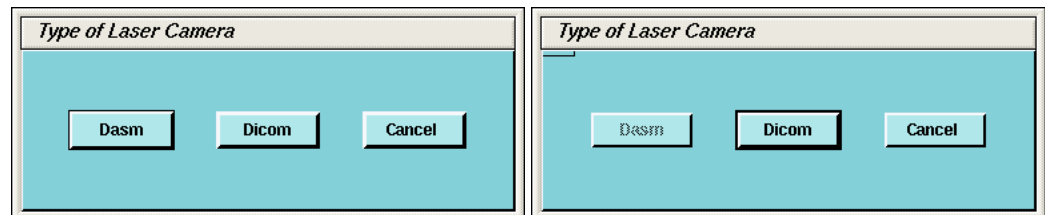

Figure 4-11 Dialog Box for camera Type (with and without DASM)
- b.) A dialog window for the camera type (DASM/DICOM) appears. If no DASM is detected during the OC boot, the DASM button will be disabled (Figure 4-11). If a DASM is present and has not been detected, reboot the OC and run the camera configuration tool again.